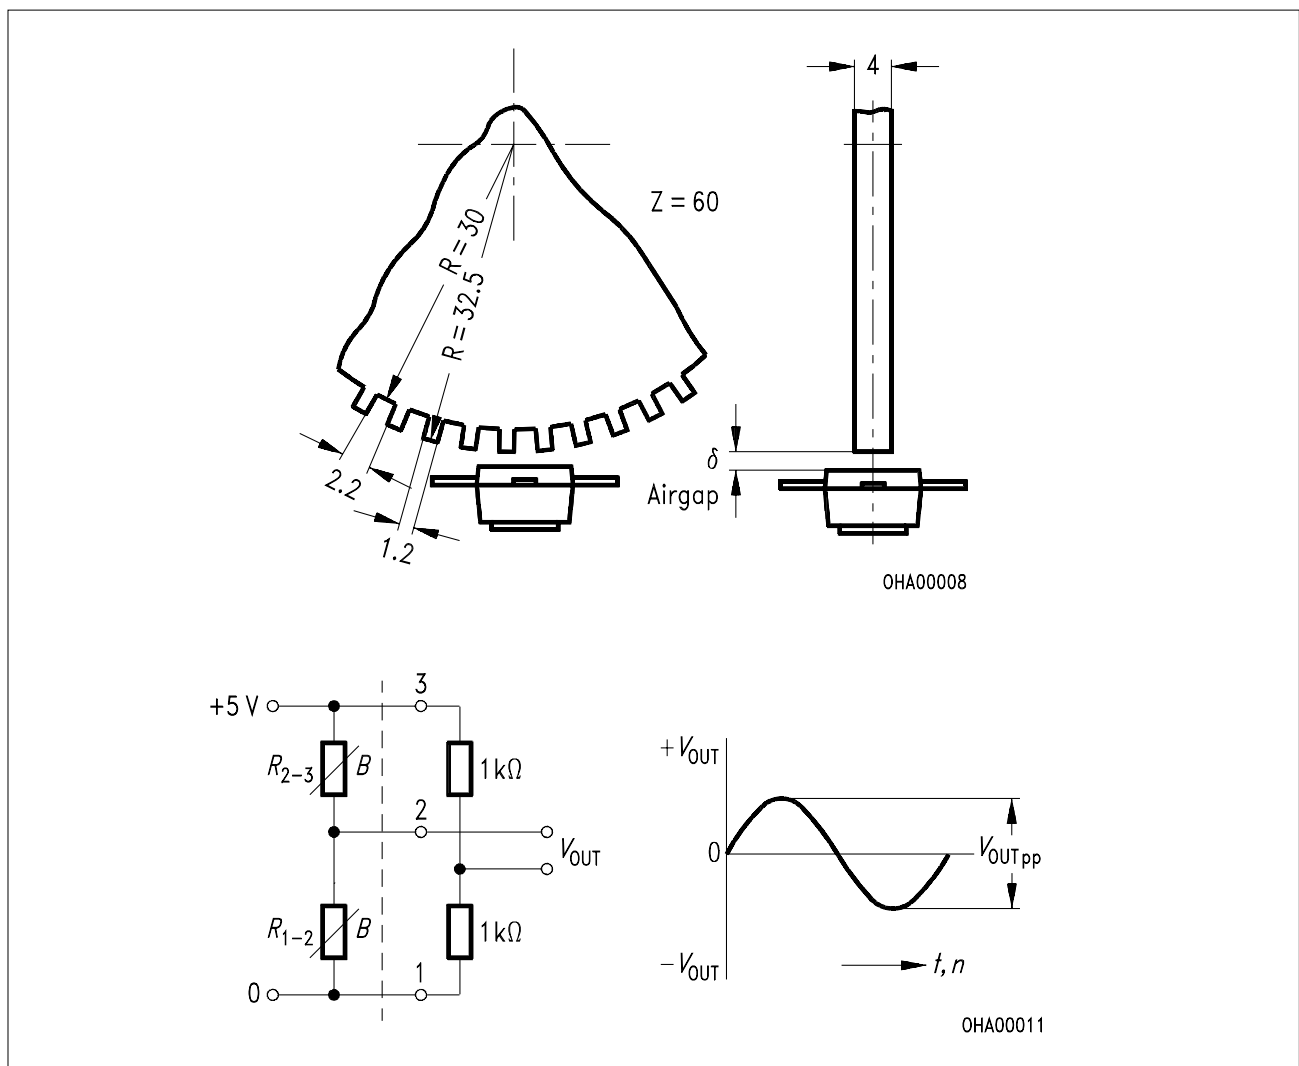

Figure 1
5) Corresponding to measuring circuit in **Fig. 2** and arrangement as shown in **Fig. 1**
For digital revolution counting, the sensor should be actuated by a magnetically soft iron toothed wheel. The tooth spacing should correspond to about twice the magneto resistor intercenter spacing i.e. $2 \times 1.6 \text{ mm}$ (see **Figure 1**).